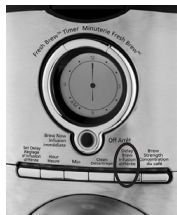

Figure 9
3. To activate DELAY BREW and program your coffeemaker to brew coffee at a later time, press the DELAY BREW button (Figure 9). The blue DELAY BREW light will turn on. The coffeemaker is now set to automatically brew coffee at the pre-set later time. At this time the brew strength light will turn on. You can select the strength that you desire by pressing the BREW STRENGTH button. (Amber for STRONG, white for REGULAR)
To cancel DELAY BREW: Press the DELAY BREW button until all lights turn off (Figure 9).